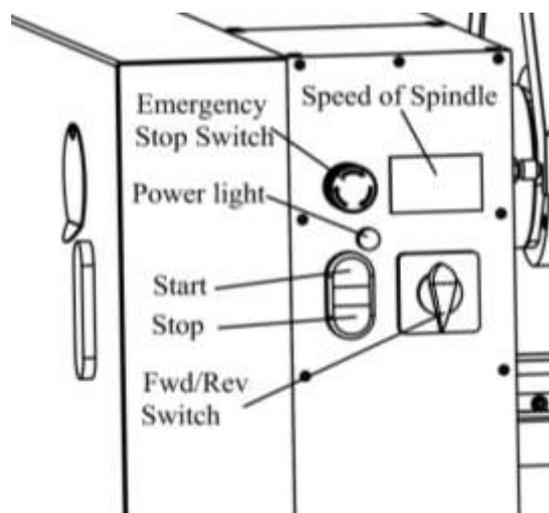

Figure 6: Main lathe control for test run
3. Familiarize yourself with the lathe controls shown in **Figure 6**. Make sure the STOP button is all the way down before continuing.